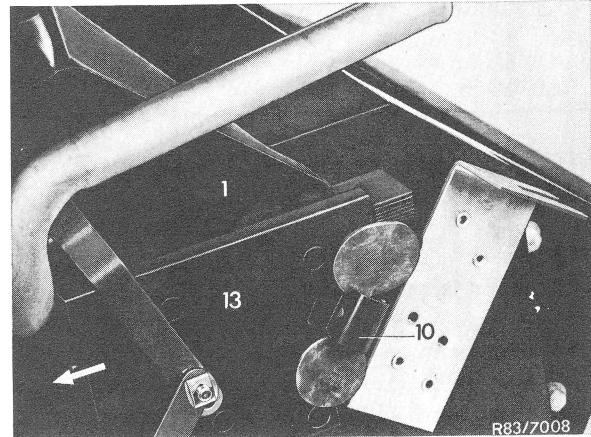

Figure 1 Evaporator box
- 8 Remove tensioning springs (10) with lock washer pliers. Then pull off both sliding pieces (13) at left and right on evaporator box in direction of arrow (Fig. 1 and 2).
- 9 Remove flap section (14).
14 Mount flap section (14) and attach with slide pieces (13) (Fig. 1).